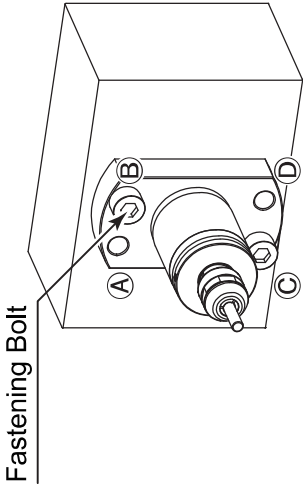

Fig. 37
- ③ Secure the motor spindle through the counter-sunk holes (2 locations : ④ and ⑤ / ⑥ and ⑦) on the flange using bolts as shown in Fig. 14. Refer to table 4 and Fig. 37 (For BMF-319).